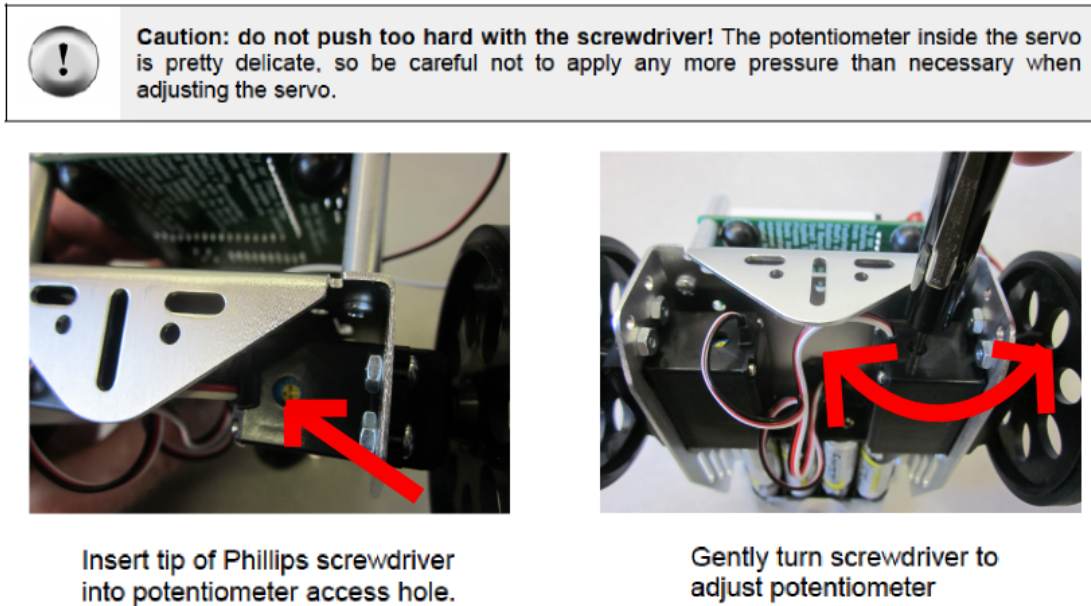

Figure 10: How to center a servo.
4. The rate at which the servo turns is controlled by a resistor called a *potentiometer*. Gently use a screwdriver to adjust the potentiometer in the servo as shown in Figure 10. **USE CAUTION WHEN YOU DO THIS, THE POTENTIOMETER IS FRAGILE.** Adjust the potentiometer until you find a setting that makes the servo stop turning.